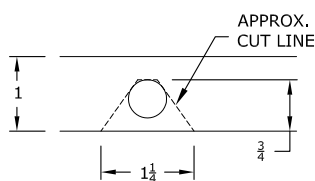

FIGURE A3
6. **Mark the 4" hole location.** Using a tape measure hooked over the rear edge of the bed (at tailgate end), measure the location for the hole as shown in figure A3. Next, locate the center of the bed by measuring the distance between the wheel wells and dividing by two. The center of the hole will be at the intersection of the center of the bed and the first distance measured
8. **Modify bed flange.** Cut a notch in the bed flange just above the frame in the passenger side rear wheel. Locate the 7/16" hole in this flange above the axle and enlarge the hole by removing the metal below the hole so that a notch is created, See figure A3 & A4. This will allow the rear cross member to be installed.